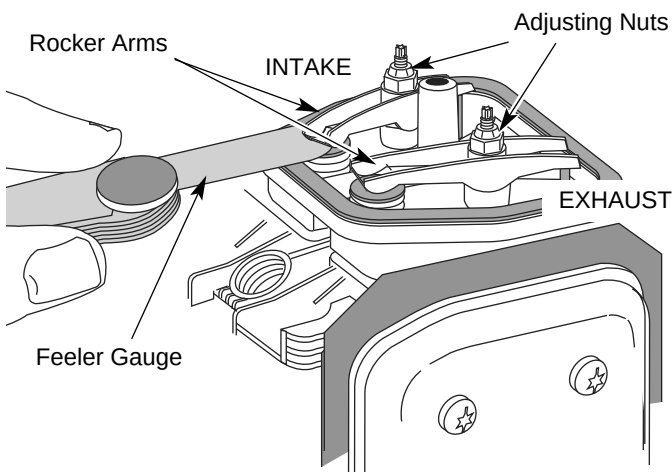

Fig. 38
9. Slide the feeler gauge between the rocker arm and the valve return spring. Measure the clearance between the valve stem and rocker arm (Fig. 38). Measure both the intake and exhaust valves.
The recommended clearance for both intake and exhaust is .003 $\pm$.006 in. (.076 $\pm$ 0.152 mm). Use a standard automotive .005 in. (0.127 mm) feeler gauge. The feeler gauge should slide between the rocker arm and valve stem with a slight amount of resistance, without binding. See Figures 38 and 39.